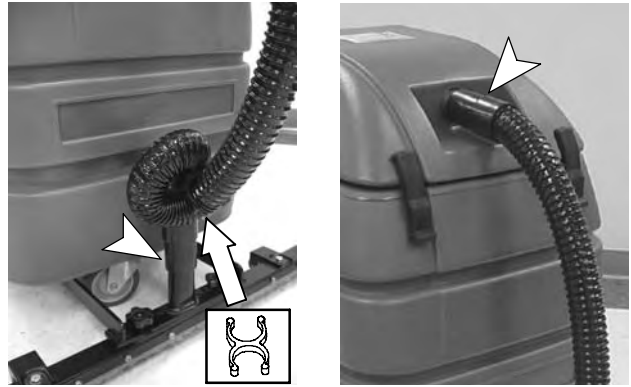

FIG. 6
11. Connect 46 in / 117 cm vacuum hose to squeegee assembly and on neck of machine lid (Figure 6).